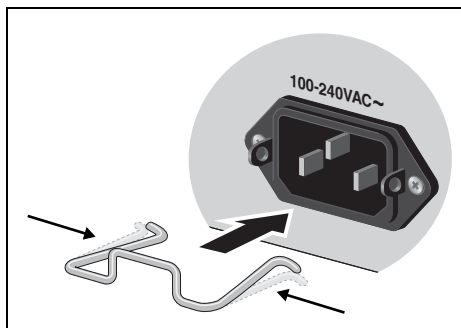

Figure 35. Inserting the Retaining Clip into the Retaining Bracket
2. Install the clip on the AC power connector on the rear panel of the switch. With the 'u' of the clip facing down, press the sides of the clip toward the center and insert the short ends into the holes in the retaining bracket, as shown in Figure 35.